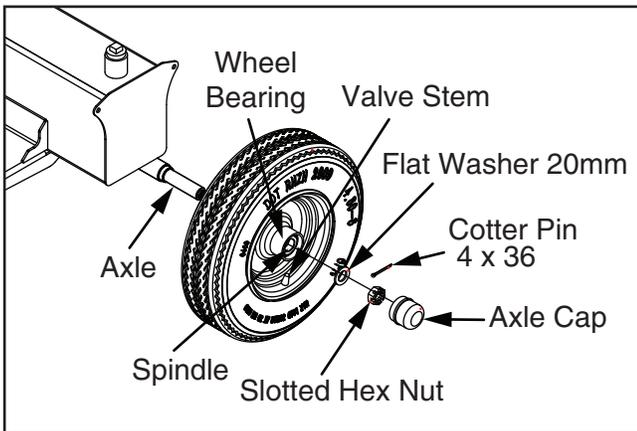

Figure 10. Installing wheel onto axle.
1. Wipe dab of multi-purpose grease onto spindle and wheel bearing (see **Figure 10**), and with valve stem facing outward, slide wheel onto axle until it stops.
2. Place 20mm flat washer with M20-2.5 slotted hex nut onto axle, then place 4 x 36mm cotter pin through hole in spindle end (see **Figure 10**).
3. Bend both cotter pin tangs so wheel is held onto axle, and tap axle cap (see **Figure 10**) onto wheel.